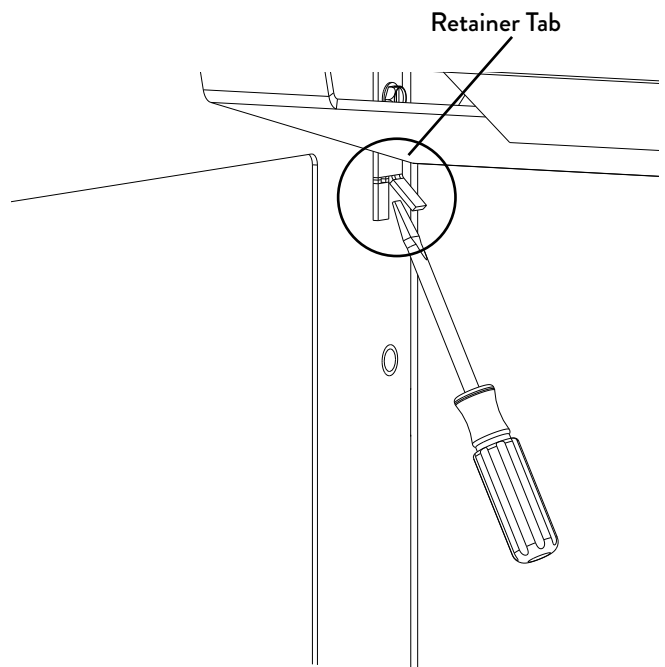

Figure 10.2. Bend Side Tabs
3. Use a flat head screwdriver to bend the rear retainer tab at 45° to keep glass from falling forward. See fig. 10.2.